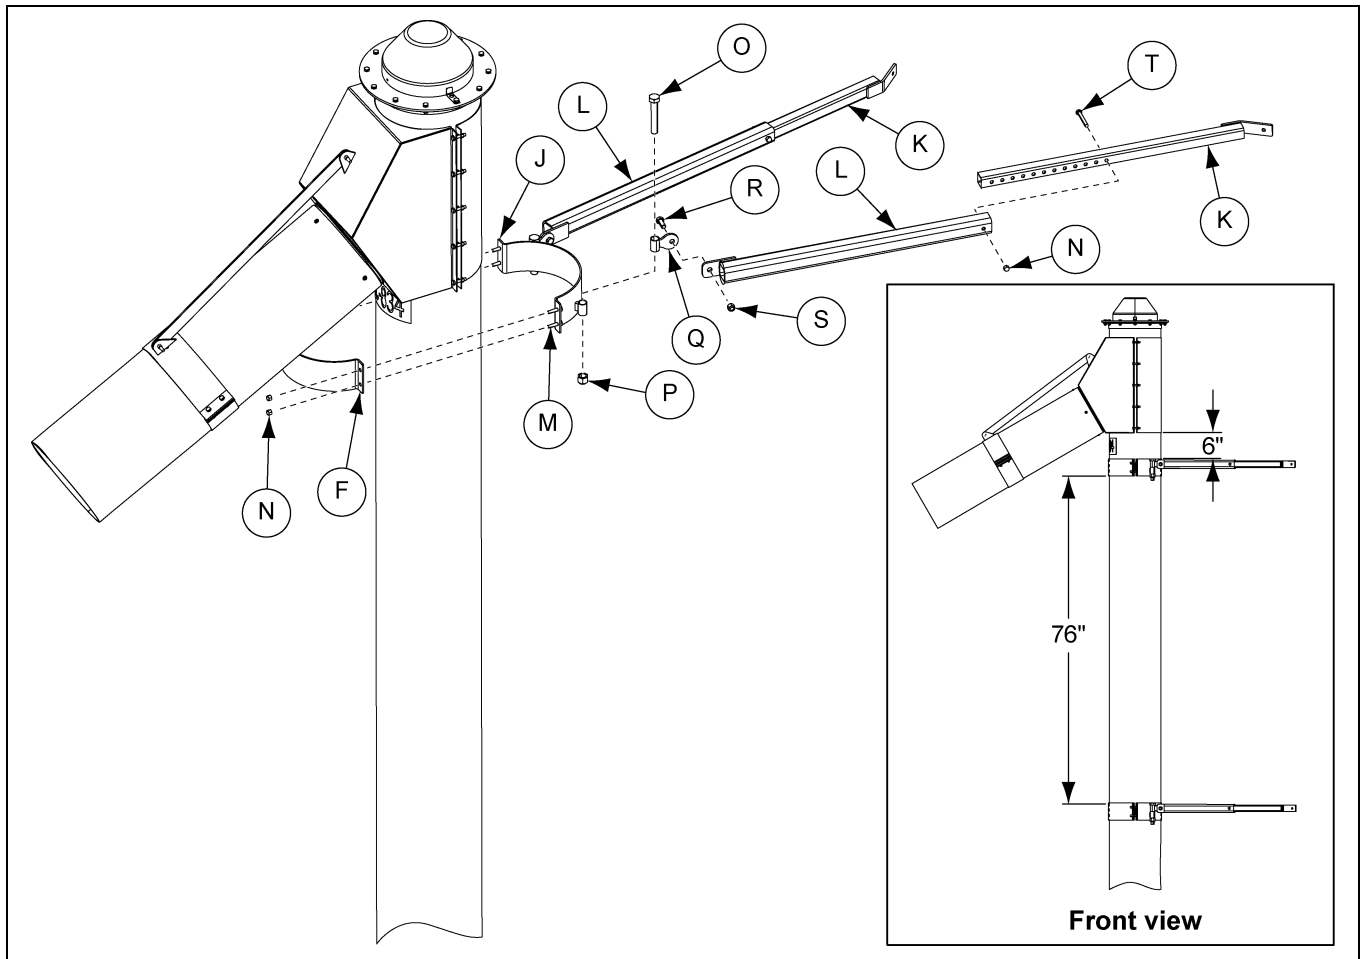

Figure 3C
- C. Attach the *half band (F)* and the *mounting bracket pivot band (J)* 6" below the bottom of the spout (G), using four (4) 3/8" x 1-1/2" hex bolts (M) and 3/8" nylock nuts (N).
- D. Attach the two (2) *leg support brackets (Q)* to the *mounting bracket pivot band (J)* using two (2) 3/4" x 4-1/2" hex bolts (O) and nylock nuts (P).
- E. Attach the two (2) *outer support legs (L)* to the *leg support brackets (Q)* using two (2) 1/2" x 1-1/4" hex bolts (R) and nylock nuts (S).
- F. Slide the two (2) *inner support legs (K)* into the *outer legs (L)* and temporarily secure with two (2) 3/8" x 2-1/2" hex bolts (T) and nylock nuts (N). (See Figure 3C.)